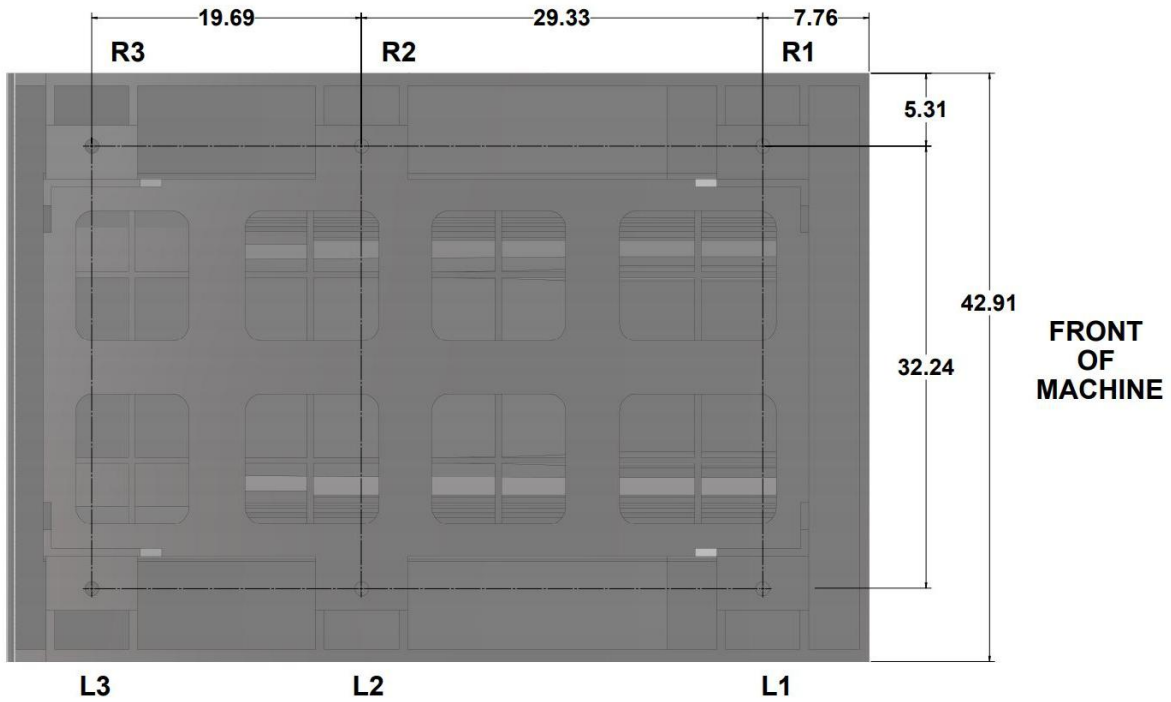

Figure 2.6.1b - TMC7 and TMC10 Leveling Pad Dimensions
3. On the TMC7 and TMC10, leveling is achieved by using leveling screws R1, R2, L1 and L2. See figure 2.6.1b. Adjusting screws R3 and L3 should be left loose with the leveling pads and have no pressure at this time. A 36 mm wrench is required to adjust the leveling bolts.